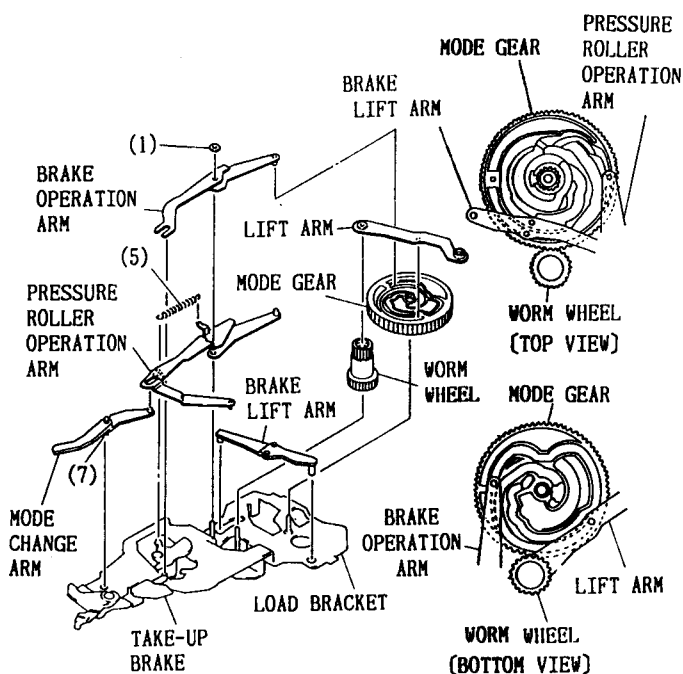

Fig. 7-11 Brake Operation Arm, Mode Gear, Worm Wheel, Pressure Roller Operation Arm, Mode Change Arm and Brake Lift Arm
* Components in item 11 below will be described as if the load bracket assembly has already been removed. (See item 10)
11. Brake Operation Arm, Mode Gear, Worm Wheel, Pressure Roller Operation Arm, Mode Change Arm and Brake Lift Arm (Fig. 7-11)